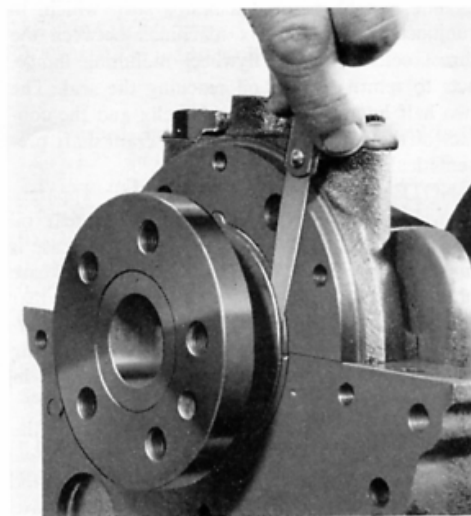

Fig. K.7.
7. Check that the crankshaft end float is within the limits given on Page K.5 by means of feeler gauges as shown in Fig. K.7. If incorrect, oversize thrust washers are available to give an overall reduction of 0.015 in (0.38 mm). (Refer to Page K.1).
8. Check that crankshaft can be rotated freely, and check crankshaft end float as shown in Fig. K.7. Should it be outside the limits quoted on Page K.5, then oversize thrust washers are available to give the necessary adjustment. (Refer to Page K.1).